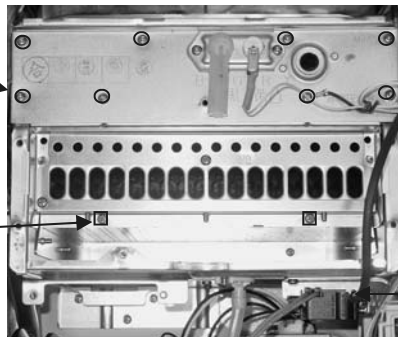

Figure 5
Remove Burner and Burner Cover Plate (Figure 5)
17. Unscrew the ignition line connection. (Figure 5)
Install Burner and Burner Cover Plate (Figure 5)